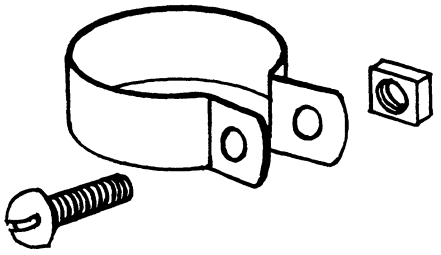

FIGURE 6
9. Assemble all 1-1/4" stainless steel clamps, using the 1-1/4"-20 x 3/4" screws and 1/4-20 square nuts as shown in Figure 6.